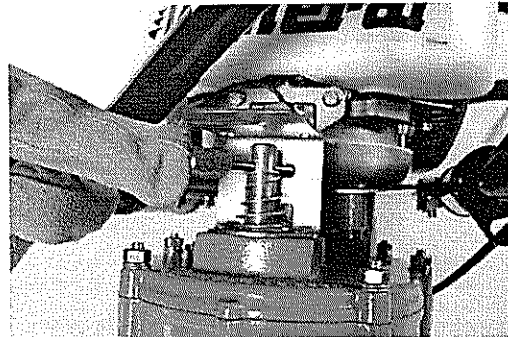

FIGURE 10
19. Locate Auger-LOK® on top of transmission housing under spark plug/engine cooling fin area of engine. FIGURE 10
20. Push lock handle down slightly to disengage upper detent position. Turn lock handle counterclockwise (to right) until it stops against vertical slot of lock bracket. FIGURE 10